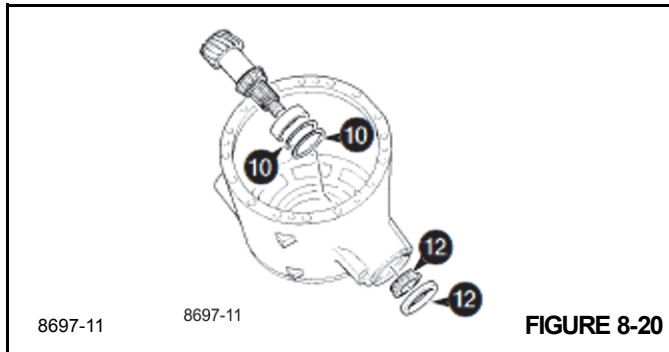

FIGURE 8-20
10. Determine the correct thickness required for the shims **10** (Figure 8-20), refer to *Pinion Depth Setting* on page 8-11.